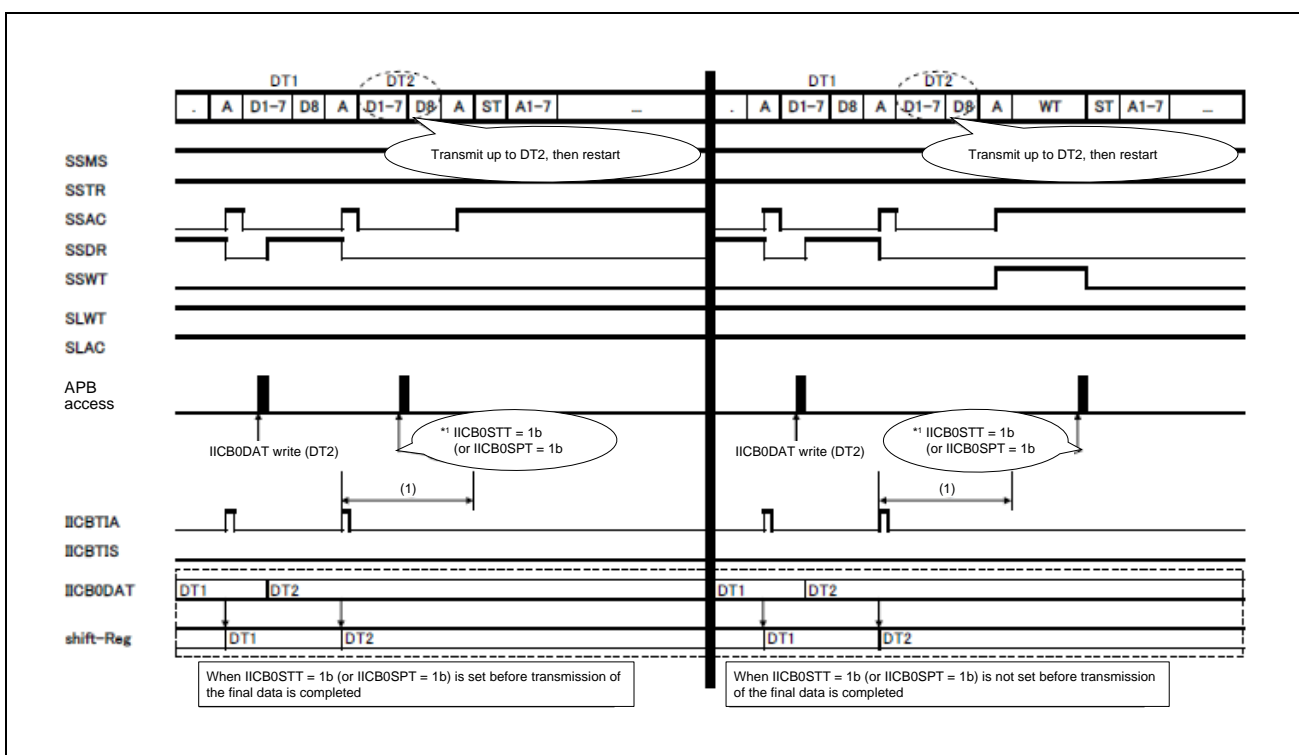

Figure 29.6-10 Operations for Final Data Processing in Transmission (IICB0SSMS = 1b & Continuous Transfer Mode)
In master operation, a restart or stop condition is issued after the completion of transmission of the final data by writing 1b to IICB0STT or IICB0SPT after the IICBTIA interrupt following writing of the final data (with the timing of \*1 in **Figure 29.6-10** when a restart or stop condition is set).
**Figure 29.6-10** shows the operations for final data processing in the case of master operation.
When both writing 1 to IICB0STT and writing 1b to IICB0SPT proceed in the interval (1) in **Figure 29.6-10**, the subsequent setting is enabled and the previous setting is disabled.